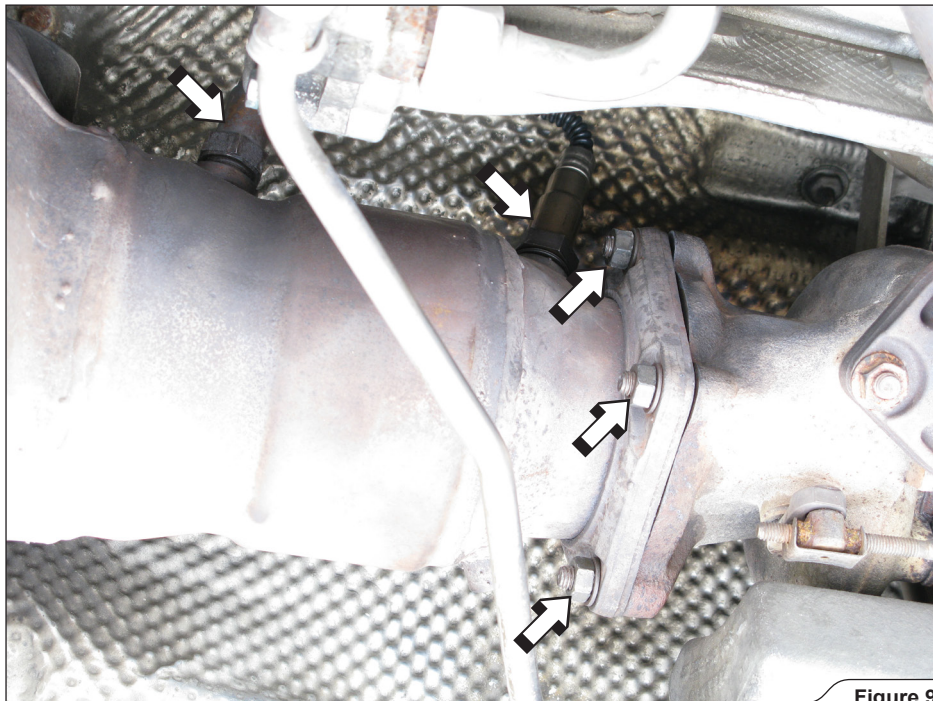

Figure 9
7. **For Slip-On and Evolution:** unscrew the lambda sensors and all nuts of the stock link-pipes on both sides of the vehicle (**Figure 9**).